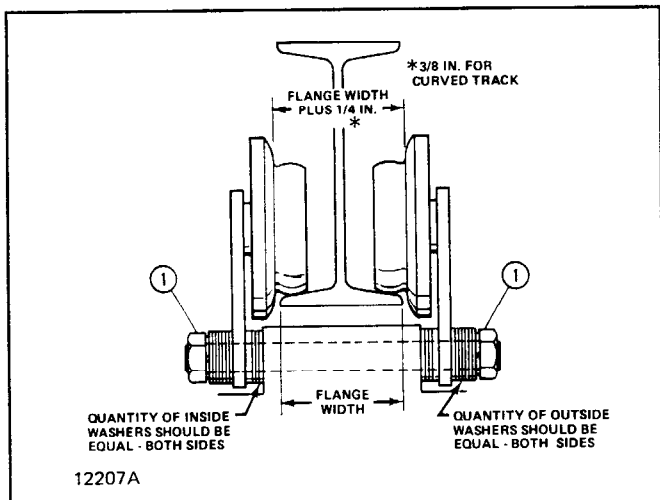

Figure 2-1. Sectional View of Trolley showing proper wheel and washer spacing.
b. Trolley Mounted hoists are attached to moveable trolleys. If hoist is mounted on an existing trolley, a qualified person shall determine that the trolley and its supporting structure will support the rated load and weight of the hoist with adequate margin. Hoist/trolley units are shipped from the factory with trolley packaged separately. If the trolley can be installed directly over the end of the supporting beam, assemble trolley to hoist. Be certain that the spacing between wheel flanges, after assembly, is 1/4" greater than exact width of beam flange. (See Figure 2-1 below and instruction sheet furnished with trolley.) Using proper equipment, carefully lift trolley and hoist and install on end of beam.
For trolleys which are to be mounted along the span of a beam not having open ends, measure exact width of beam flange and assemble trolley to hoist so that spacing between wheel flanges is 1/4" (see Figure 2-1) greater than beam width (3/8" if beam has curves). This is accomplished by rearranging the spacer washers on the bolts connecting trolley side plates to hoist mounting lug. If trolley is shipped separate from hoist, see instruction sheets furnished with trolley for orientation and installation.
When proper spacing has been determined, loosen mounting nuts (item 1, Figure 2-1) to allow trolley wheels to spread far enough to pass over edges of beam flange. (Some installations may require complete removal of one trolley side plate.) Using adequate equipment carefully lift the hoist and trolley so the wheel treads will rest on the lower beam flange. Replace side plate and washers if removed for installation. Replace suspension stud nuts.